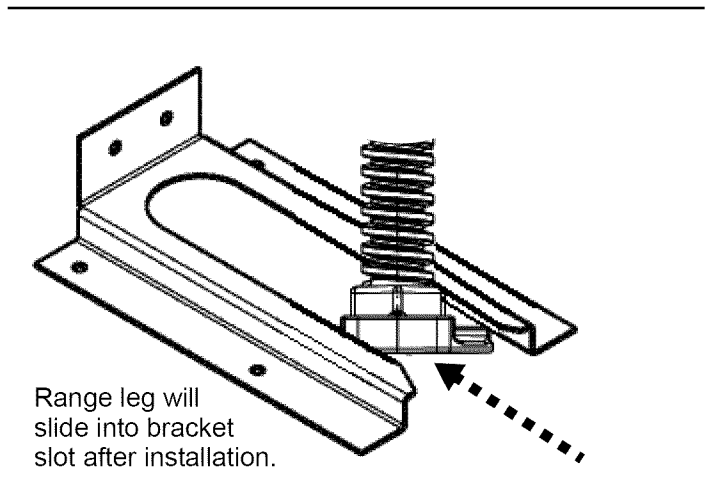
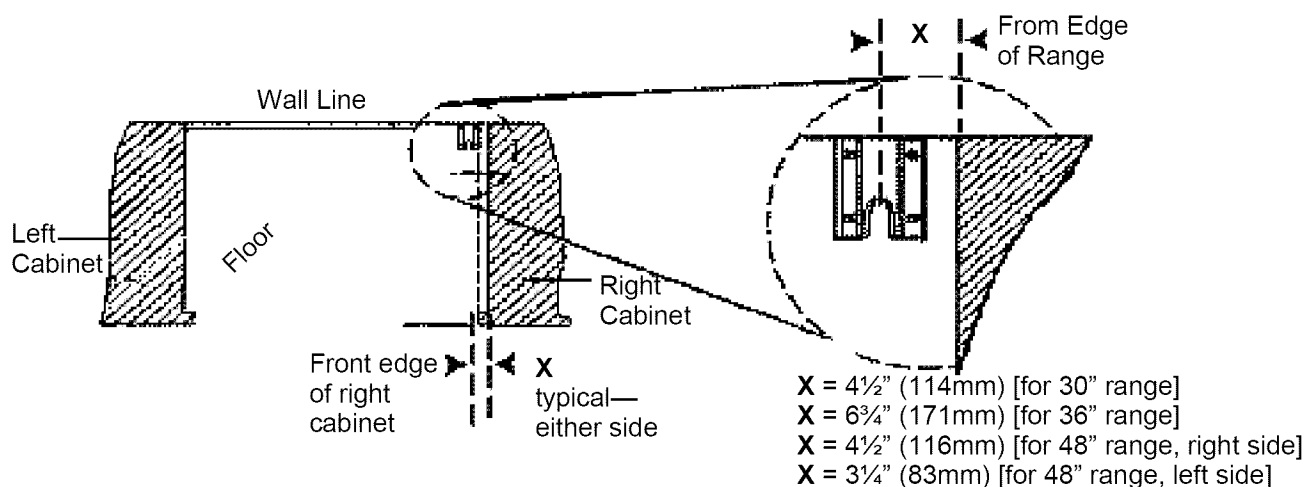

Figure 7: Anti-Tip Bracket
Figure 8: Placement of Anti-Tip Bracket (Top View)
1. Place bracket on floor in position shown in *Figure 8*.
2. Secure to floor and wall stud using the (4) 1 1/2" (38mm) Phillips head screws provided.
3. Later, when the unit is installed, the adjustable leg will slide under the bracket, as shown in *Figure 7*.